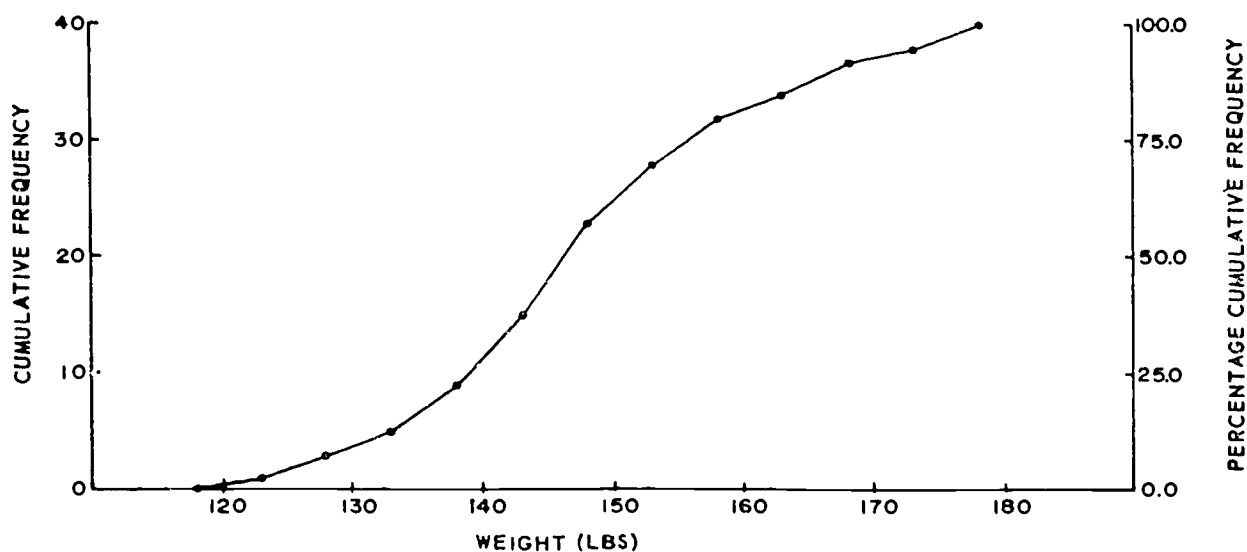

Figure A-2. Ogive and percentage of ogive of the cumulative frequency of weights of airmen (objective A10, exercise 1).
- b. and d. The ogive and the percentage ogive are shown in figure A-2. Arrange your graph to show the cumulative frequency on the vertical scale on the left, and the percentage cumulative frequency on the vertical scale on the right.